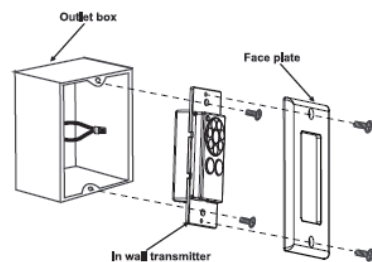

Figure 2
Step 2. Install the in wall transmitter and face plate to the existing wall outlet box with 4 screws provided. (Fig. 2)